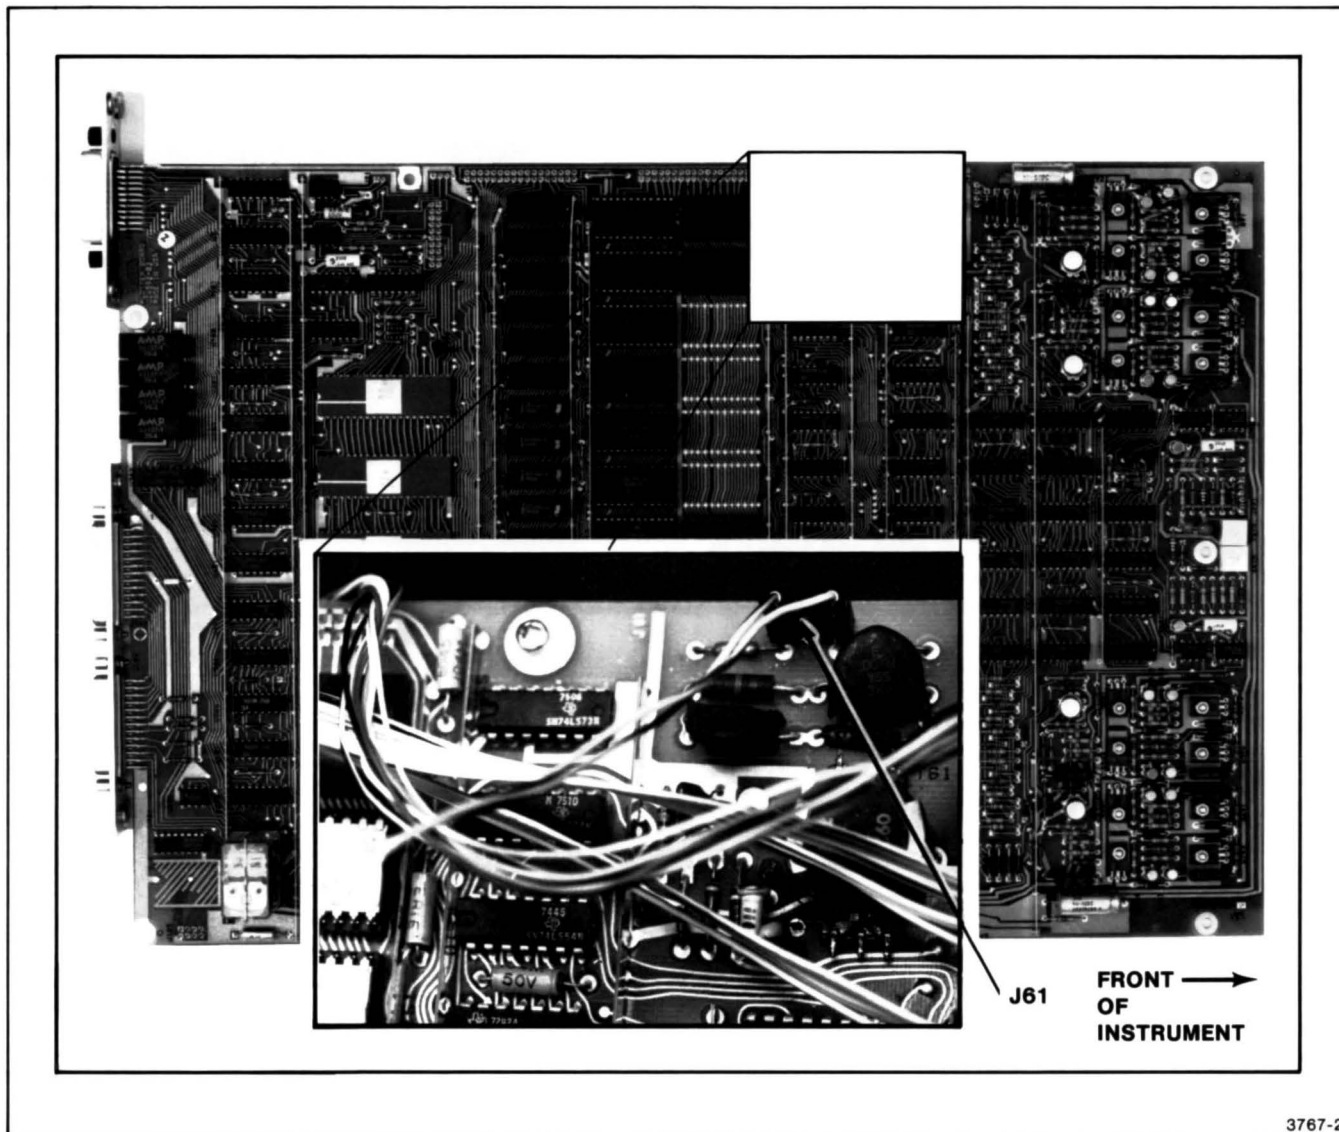

Figure J-3. Platen Connector Position.
6. **Lift** the platen at the left bottom edge and slide it to the left until it clears the pen carriage. **STOP!** Lift the platen slightly to expose the two-wire cable that connects the platen to the High Voltage Connector (J61) on the main Plotter circuit board. Disconnect the two-pin harmonica connector from the connector pins. Then, remove the platen (see Figure J-3).